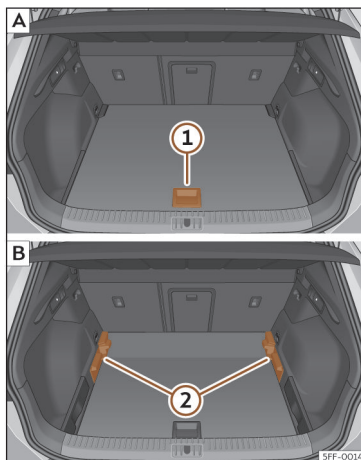

Fig. 177 Variable luggage compartment floor: **A** raised position; **B** lowered position.
- To move from the low position to the high position, lift the floor using the handle >>> **Fig. 177** (1), and pull it back until the front of the floor has fully passed the supports (2).
- Move the floor forward over the supports as far as the rear seat backrest and then lower the floor with the handle (1).
- To move from the high position to the low position, lift the floor using the handle >>> **Fig. 177** (1), and pull it back until the front of the floor has fully passed the supports (2).
- Now let the front part fall to the floor and slide the floor forwards as far as the rear seat backrest; lower the floor at the same time with the handle (1).
- Lift the variable floor in the high position using handle >>> Fig. 177 ①, pull it up and push it towards the backrest of the rear seats until it folds along the hinge line and the movable part of the floor is resting on itself.